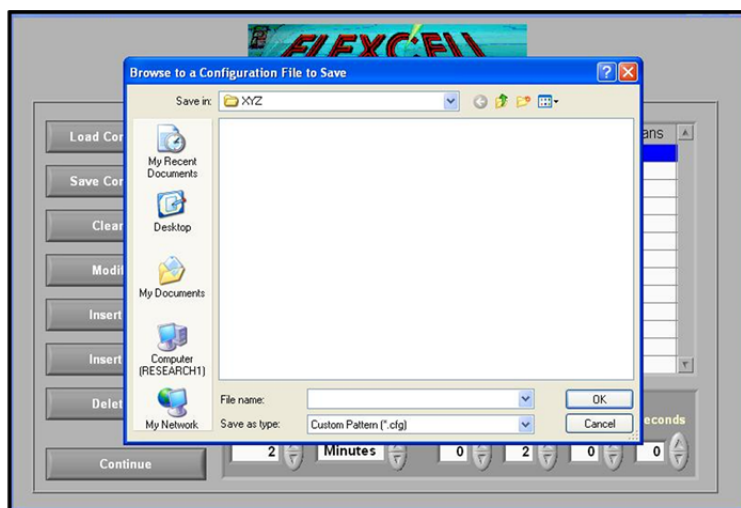

Figure 29. Saving a new regimen
- 5) When all steps have been added, save regimen by clicking on **SAVE CONFIGURATION**. A folder with the user's name as the title will be opened (**Figure 29**).